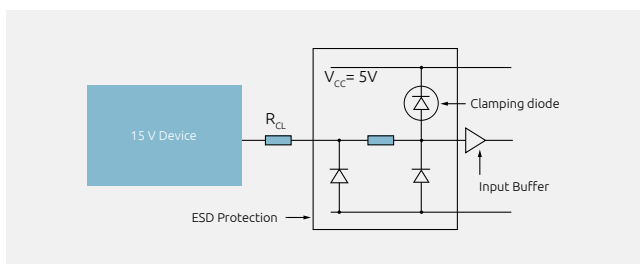

Fig. 2 Clamp diode protected input simplified schematic
- › Clamp diode protected inputs, enables high to low voltage translations, with an additional current limiting resistor (Fig. 2)
Logic circuits, registers, analog switches and voltage translators can be used for added functionality or additional layers of security outside of the main control processor. Because of the large number of process families available, the below table is provided to ease selection, with explanation of what families have which features from the ones listed in Fig. 2 to Fig. 7: